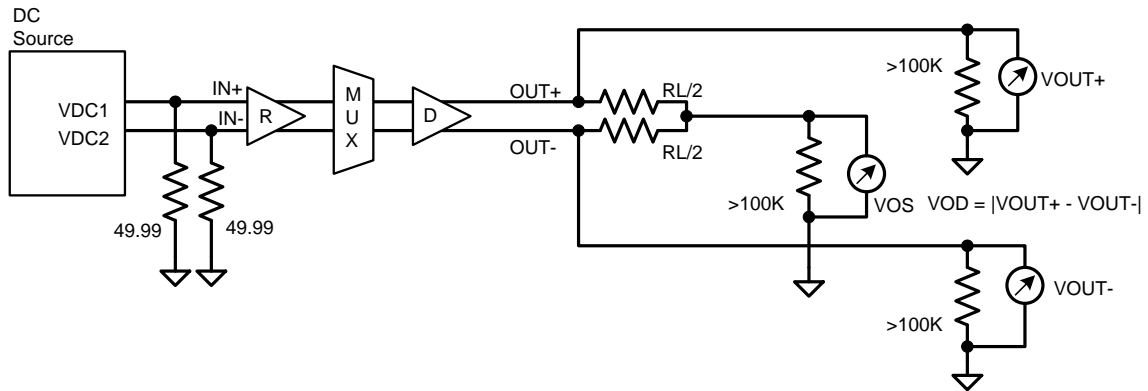

Figure 4. Differential Driver DC Test Circuit
| V OD  | Differential Output Voltage (3)               | R L = 100Ω between OUT+ and OUT- (see Figure 4)  | 250   | 400                | 475             | mV    |